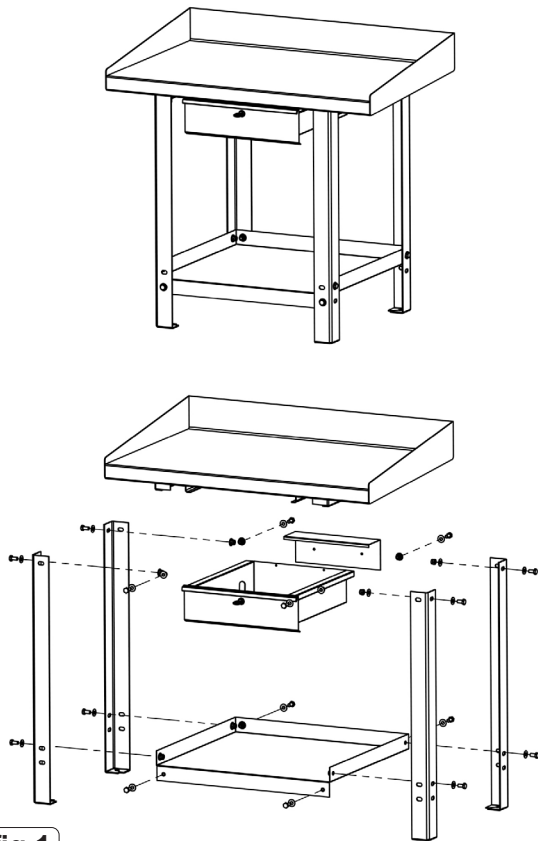

fig.1
- 5.5.4. Place a washer and nut onto each of the bolts and hand tighten (fig.1).
- 5.6.3. Place a washer and nut onto each of the bolts and hand tighten (fig.1).